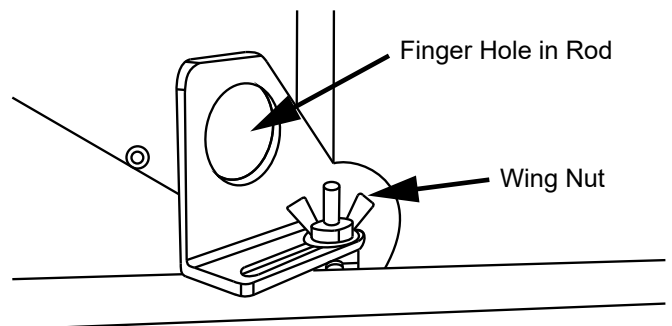

Figure 11.3
1. Loosen the wing screw (**Figure 11.3**).